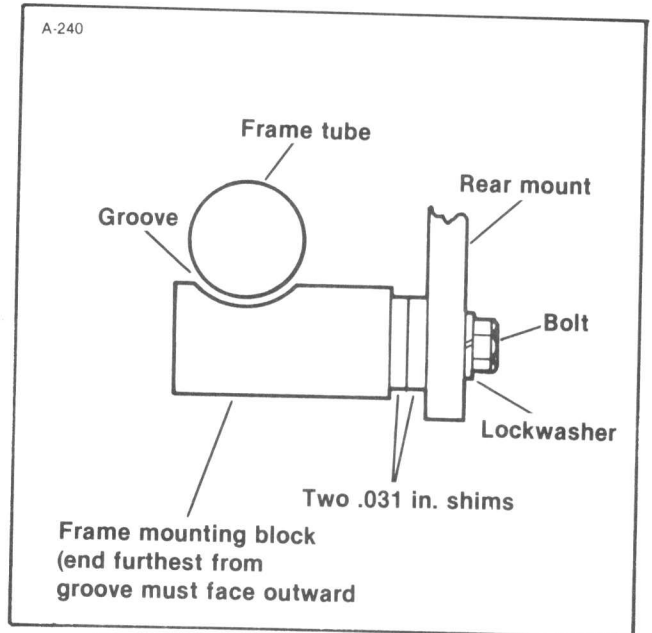

Figure 5-7. Positioning Mounting Block
- See Figure 5-7. Attach the frame mounting block (28) and two .031 in. thick shims (22) to the rear mount assembly (1) with bolt (20) and lockwasher (21). Tighten bolt finger tight.
The frame mounting block must be positioned as shown in Figure 5-7 or the block could interfere with rear fork travel.